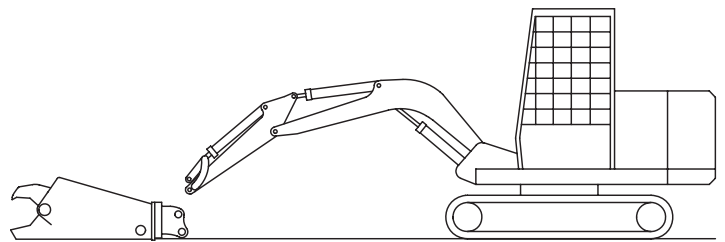
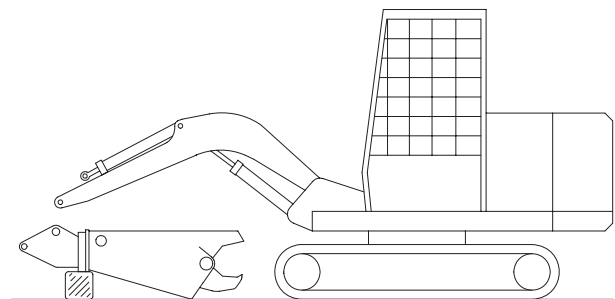

FIGURE 3-2
FIGURE 3-3
1. Locate level, firm ground, such as a concrete floor, for installation. Place the shear on the ground with the mounting bracket facing the excavator (figure 3-2). It may be necessary to block up the rear end of the shear to allow the stick or boom tip to be aligned with the mounting bracket. For second member, or boom mounts, it may be necessary to place the shear on the ground upside down with the mounting bracket facing away from the cab (Figure 3-3).